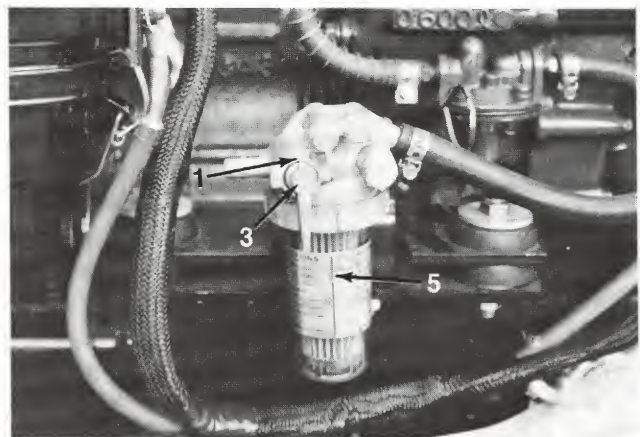

FIGURE 20.
1. Fill the fuel tank. Open the fuel shut-off valve. See figures 20 and 21.
1. Close the fuel filter bowl shut-off valve. See figures 20 and 21.